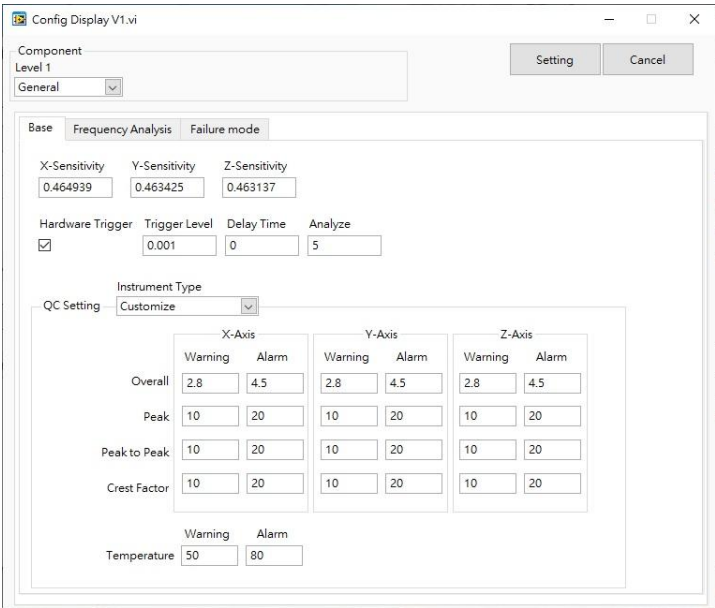
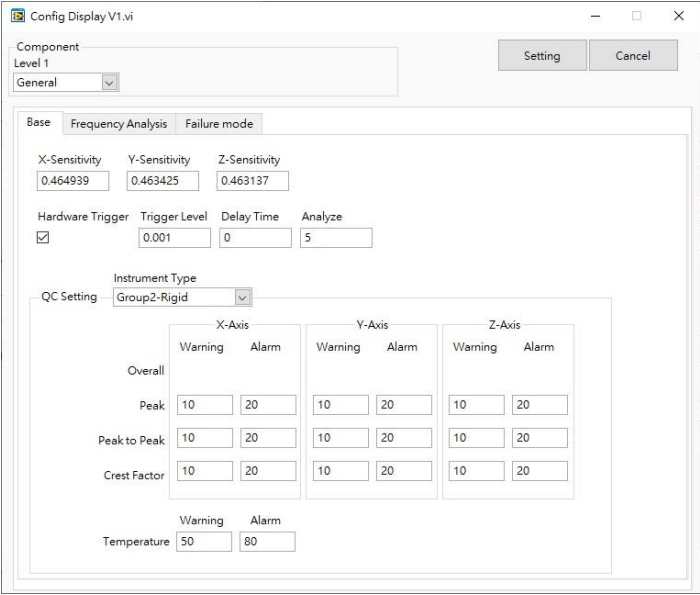

Figure2-19 Aurora Modbus Utility General Mode Analysis Parameter Settings Page
Figure2-21 Aurora Modbus Utility Time-Domain Feature Analysis Parameter Settings under General Mode
As shown in Figure2-19, the analysis parameter setting descriptions for 213MM2-R1 under General mode are as follows. Please note that the readings displayed on the software interface are all existing active analysis parameters inside the sensor.Base Page:
- **Overall QC Setting:** Failure determination thresholds for Overall in tri-axial time-domain features. Readings for all three axes display Warning 2.8, Alarm 4.5, as shown in Figure2-19; if an equipment category defined in ISO-20816 is selected, the system will automatically populate the failure determination thresholds defined by ISO-20816, as shown in Figure2-21.
- **Peak QC Setting:** Failure determination thresholds for Peak in tri-axial time-domain features. Readings for all three axes display Warning 10, Alarm 20, as shown in Figure2-19.
display Warning 10, Alarm 20, as shown in Figure2-19.
- Crest Factor QC Setting: Failure determination thresholds for Crest Factor in tri-axial time-domain features. Readings for all three axes display Warning 10, Alarm 20, as shown in Figure2-19.
- Temperature QC Setting: Tri-axial time-domain feature failure determination threshold; readings for all three axes display Warning 50, Alarm 80, as shown in Figure 2-19.